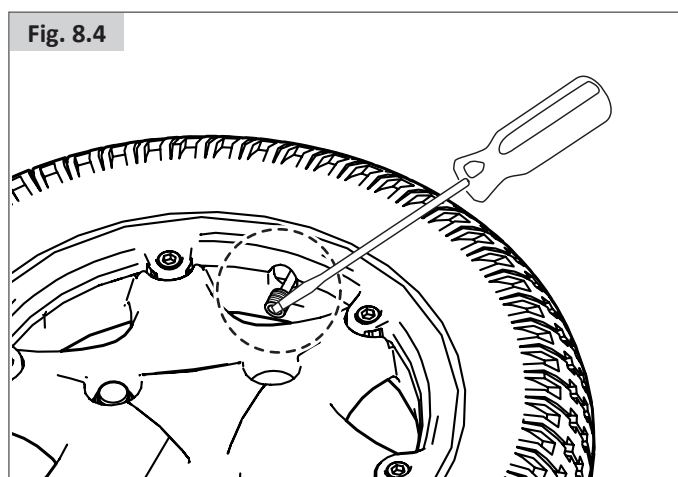

Fig. 8.4
- Remove the valve cap and let the air out of the tyre by gently pressing the valve stem with a small screw driver, (Fig. 8.4).